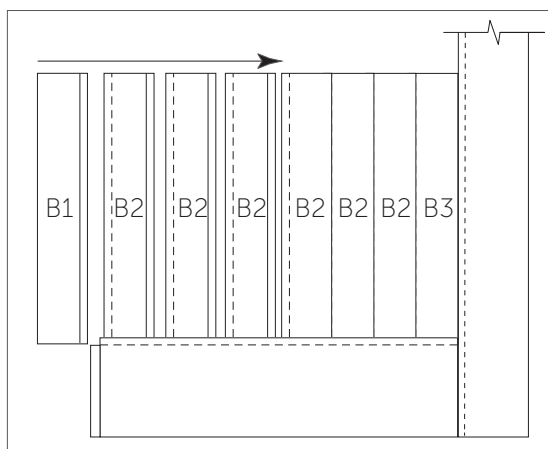

Figure 2
2. Beginning with the lower right side slat (B3) slide the lower slats (B2) with the tongue facing to the right, into the groove of the bottom rail one at a time, ending with the lower left side slat (B1). Tap each in place with the rubber mallet (Figure 2).